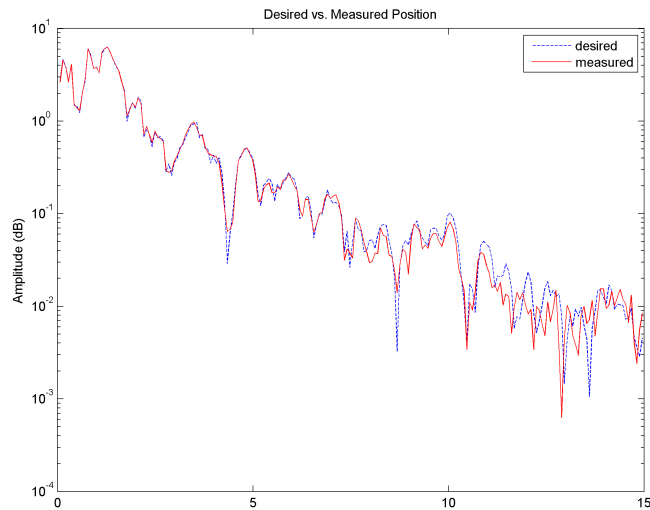

Figure 3.13: FFT of desired and measured position.
2. To produce the  $|X(\omega)|$  position power spectrum similar to Figure 3.13, run `fft_eval_pos.m`. The desired or commanded position is the blue trace and the measured position (from the encoder) is the red plot line.